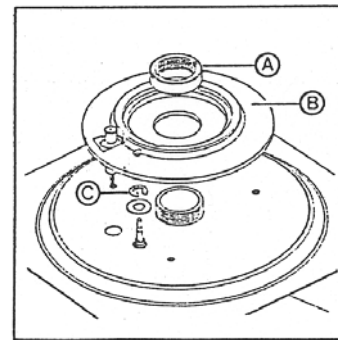

Fig. 3
- By means of the tool provided, unscrew the threaded ferrules "A" (Fig. 3) securing the burners to the cook-top.